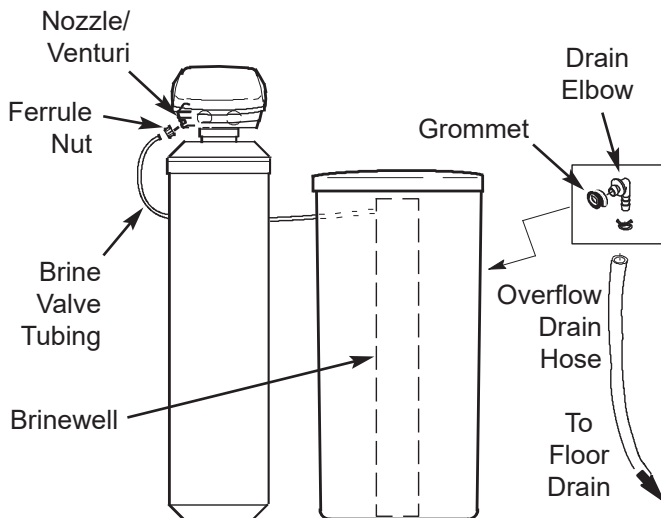

FIG. 14
- a. Insert the rubber grommet into the 3/4" diameter hole in the salt storage tank sidewall (See Figure 14).
- b. Connect the end of this tube to the nozzle/venturi assembly, as shown in Figure 14, using a ferrule nut (provided). Tighten the nut by hand, then an additional 1/4 turn with pliers.